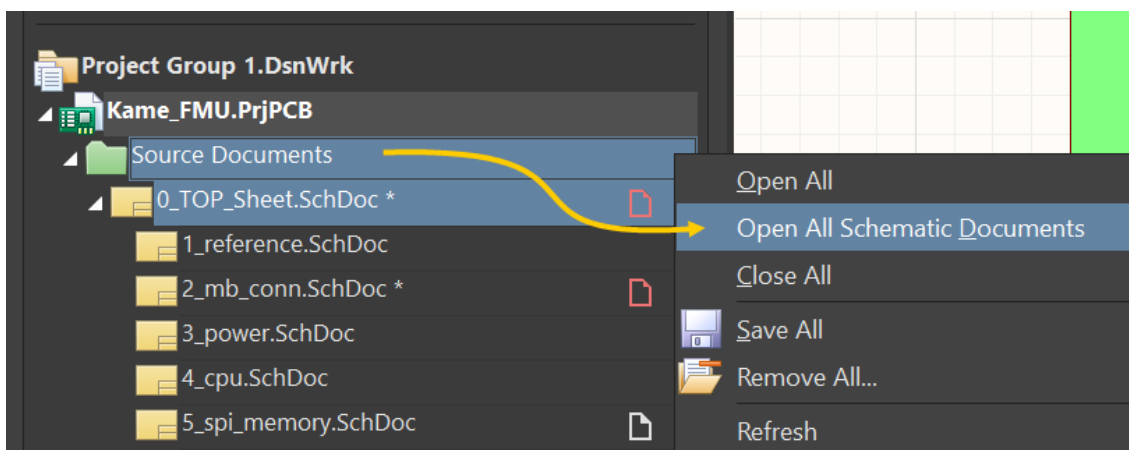

Figure 26. Opening all schematic documents
64. Open all of the schematic sheets in our design by right-clicking on the *Source Documents* folder of your project and select **Open All Schematic Documents**, as shown in Figure 26.